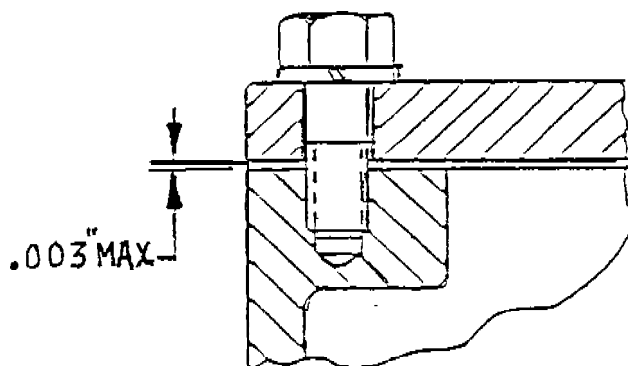
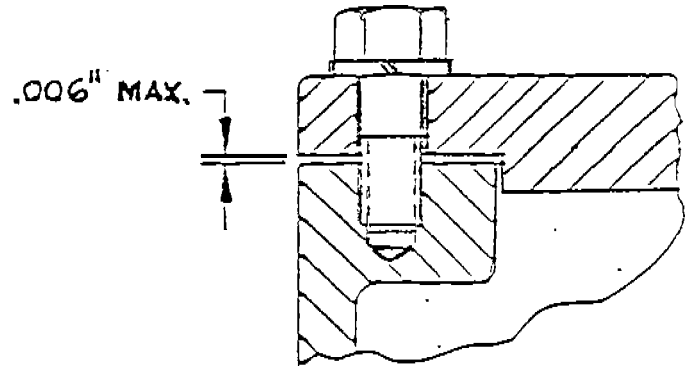

FIG. 3
FIG. 4
- (WEEKLY) 6. () Light Switch Cover has a maximum clearance of .003" between mating surfaces (.004" feeler gage cannot be inserted, Fig.3). The bolted alternator cover has a maximum clearance of .006" between mating surfaces (.007" feeler gage cannot be inserted, Fig.4).